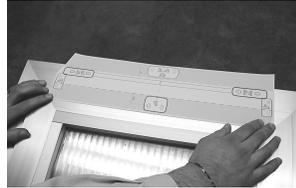

Figure 9
- C. Attach the template to the window frame (fixed part) and line axis up with the centre line "X" traced earlier (Fig. 9). **Warning:** for window frames not on the same plane, cut the part of the template coloured in grey and